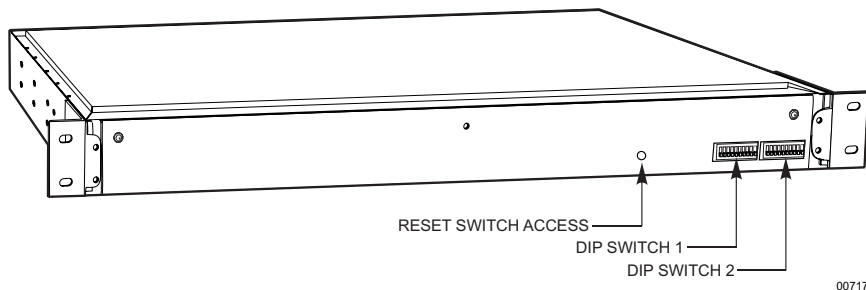

Figure 12. DIP Switch Location
2. Set the DIP switches. Refer to Tables A and B and Figures 12 and 13.